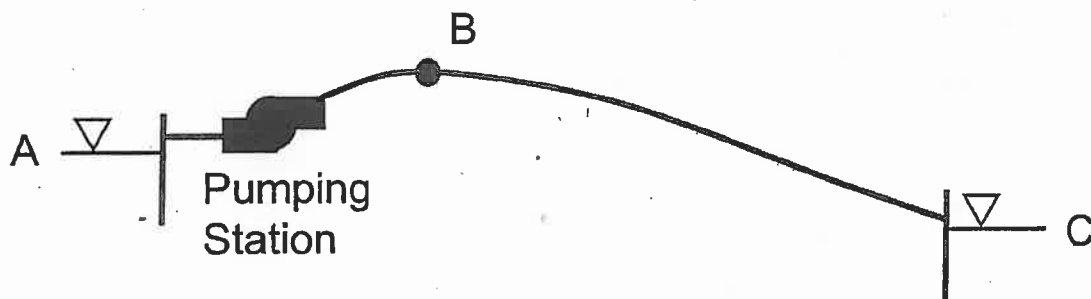

Figure 3. Layout of pipeline system.
3. The water surface in a large reservoir (A) is 70 m above datum while the surface elevation of a second reservoir (C) is at 40 m (Figure 3). The two reservoirs are connected by a pipe 5000 m long having a Hazen-Williams 'C' of 130 and a diameter of 810 mm. After leaving the upstream reservoir the pipeline climbs a hill to a maximum ground elevation of 50 m (point B) at distance of 1450 m from the upstream reservoir. A pumping station at A consists of two identical pumps having a head-discharge curve described by